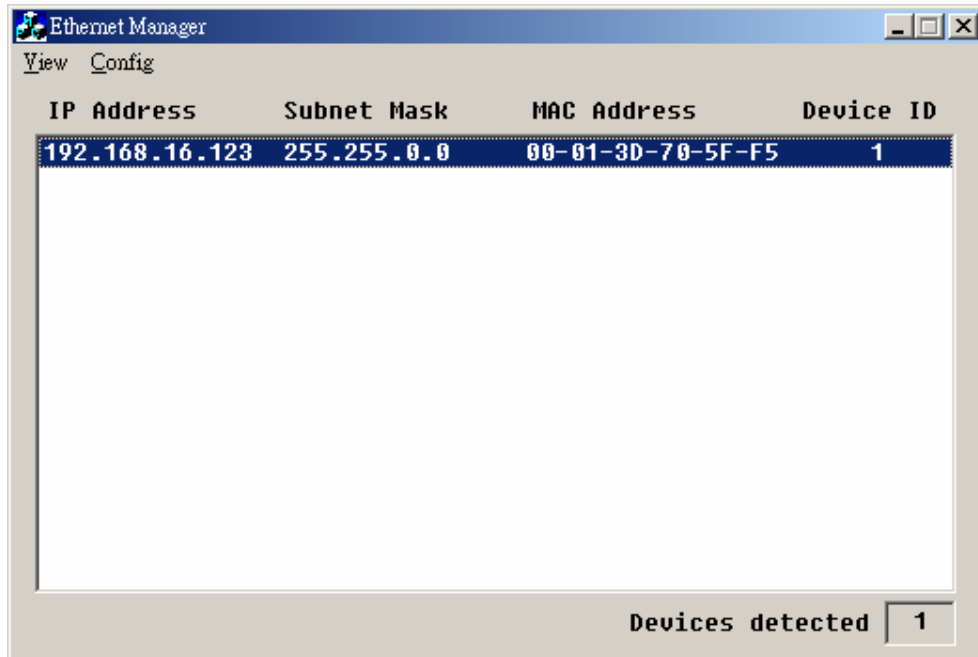

Fig D2-1
2. Run the ETM.EXE , it will show as fig D2-1 if not , please press F5 to search again, or check the first step was succeed or not.